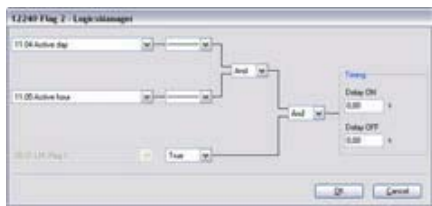

Fig. 199: LogicsManager function "Flag 2"
2. ➔ Configure the LogicsManager function "Flag 2" (parameter 12240 ↪ p. 407) as shown in (Fig. 199).